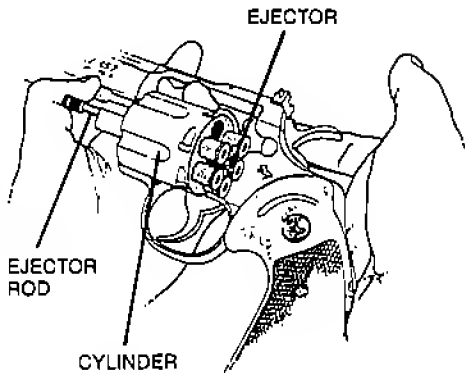

FIGURE 3-EJECTION
3. Push ejector rod backwards forcing out all live rounds or empty cases (See Figure 3). When they are clear of the chambers, remove from revolver. Allow ejector rod to return forward under its spring action.